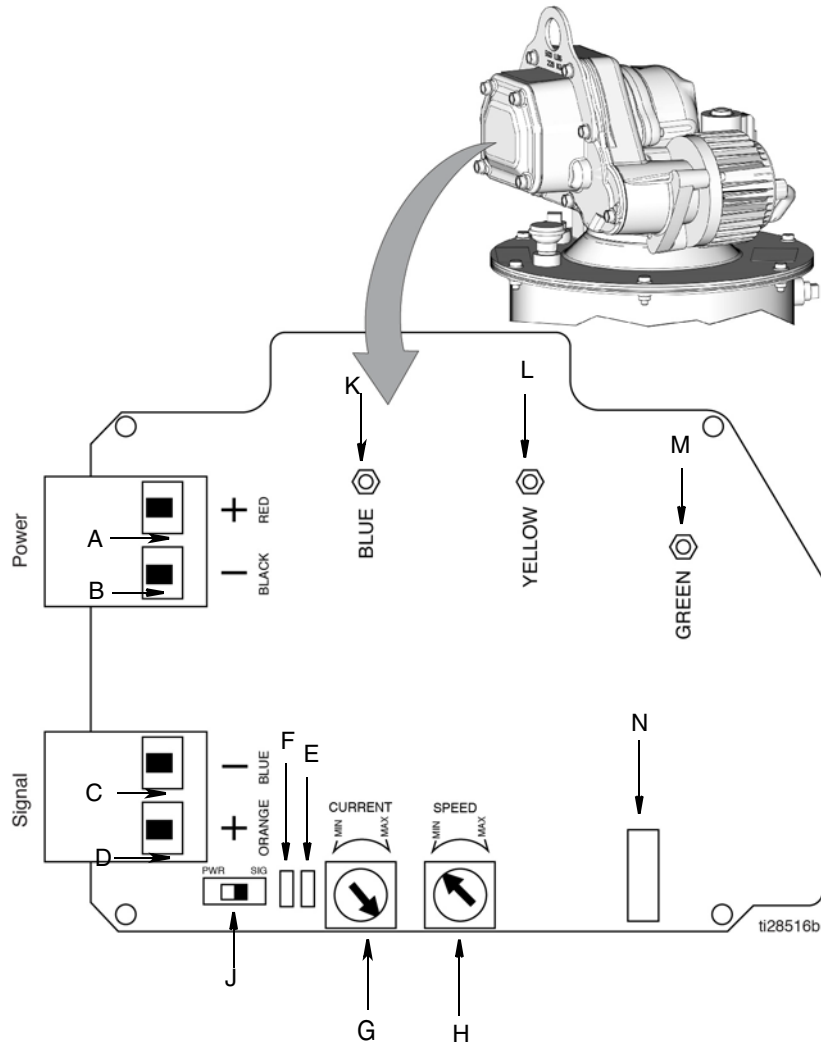

FIG. 9
- When the pump control switch (J, FIG. 9 page 11) is set in signal mode, the motor/pump runs when voltage is applied to the signal and power connectors.
- When the pump control switch (J, FIG. 9 page 11) is set in power mode, the motor/pump runs when voltage is applied to the power connectors. The signal connectors do not require voltage.